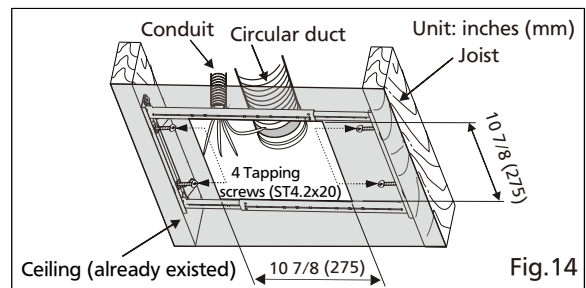

Fig.14
1. Remove the existing fan and cut ceiling opening. Secure the Flex-Z Fast™ bracket to joists by drilling 4 tapping screws (ST4.2x20) which have been fixed on it. Existing ductwork and wiring left in place. (Fig.14)